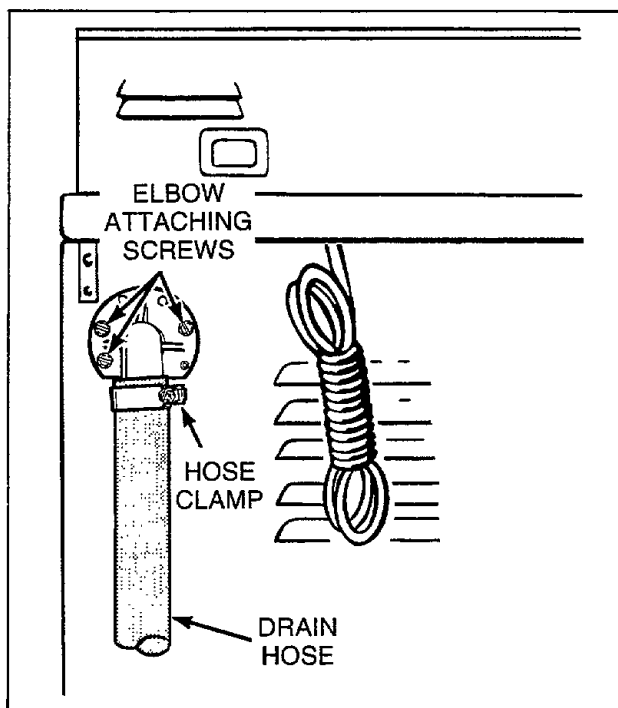

Figure 5
5. DRAIN HOSE ELBOW (Refer to *Figure 5*)